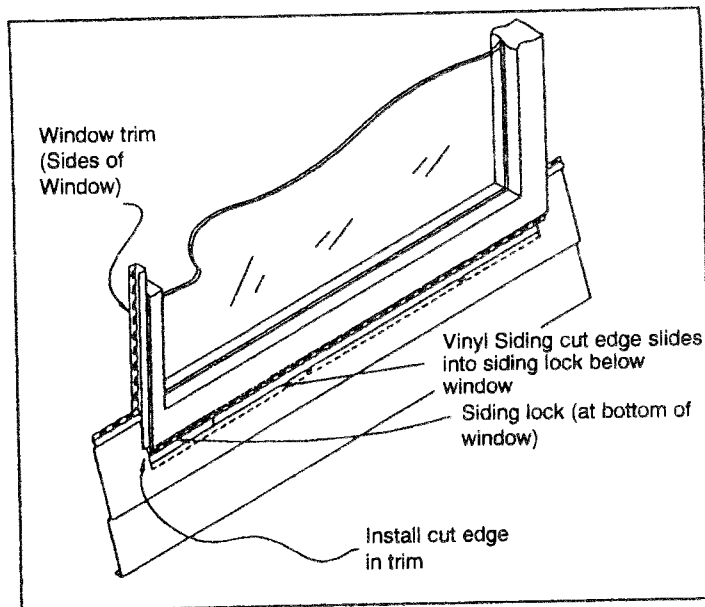

FIG. 10
B. Install the siding lock over the cut edge of the siding and slide the panel into the J - Channel or window mold under the window sill. This gives the vinyl siding under the window a flat and more rigid look. The lock from the cut-out panel may be substituted for the vinyl finish trim after removing the nail hem. (See Figure 10.)